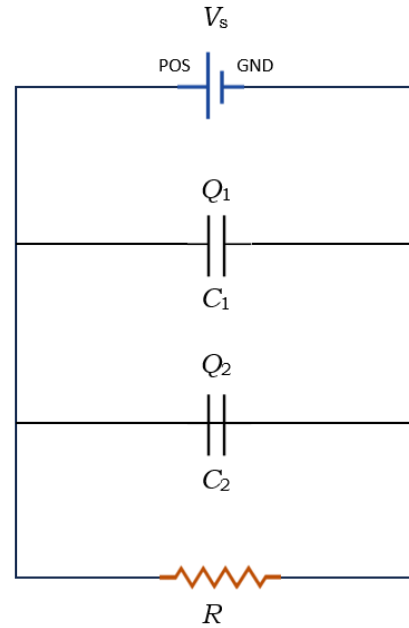
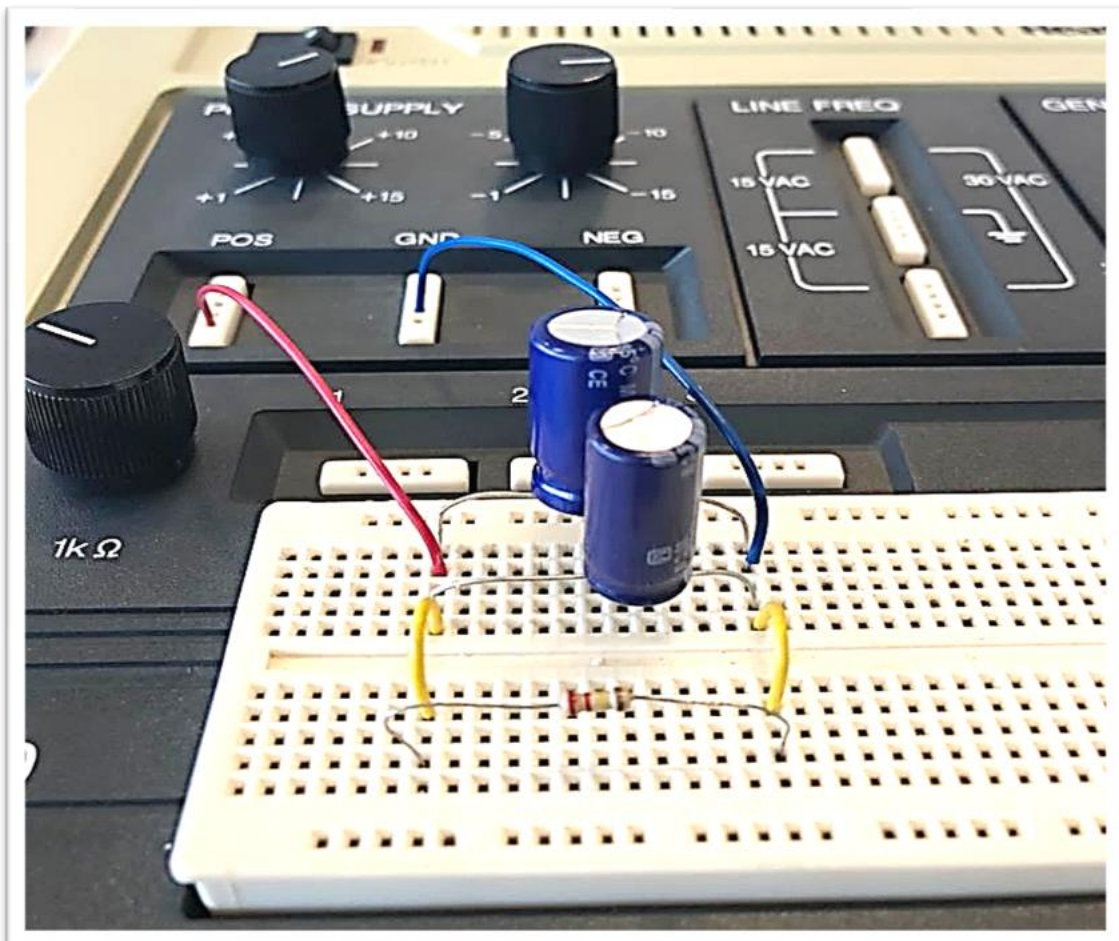

Fig. 4: Discharging circuit for the parallel capacitors network
Fig.6: Capacitors in parallel
2. Connect the circuit given in **Fig.4** as shown in **Fig.6**. (**make sure that the negative leads of the capacitors are connected to the right as shown**).